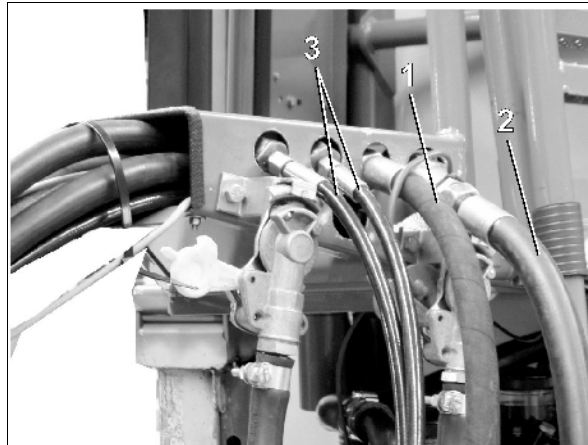

Fig. 21
- Hydraulic hose line (pressure hose P) (Fig. 21/1) connected to a hydraulic joint with one single acting control valve.
- Hydraulic hose line (return flow hose N) (Fig. 21/2) connected to a hydraulic joint with pressure free return flow
- Connect the hydraulic hoses (Fig. 21/3) for the hydraulic jack to one double acting control valve.